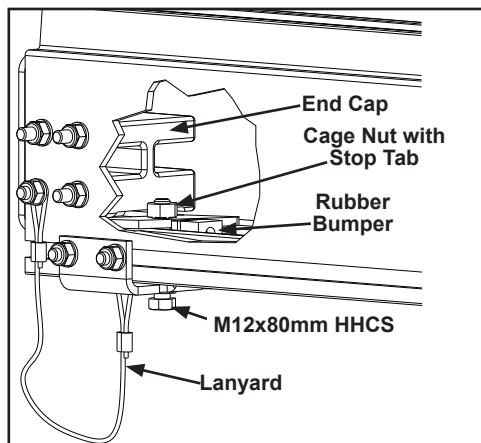

Figure 3-77 Redundant Stop
- Step 1. Verify rubber bumper faces load. See Figure 3-77 Redundant Stop. Loosen cage nut with stop tab until flush with end of bolt.